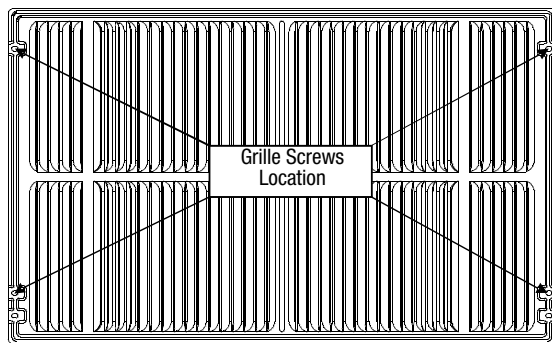

FIG. 2
4. If the unit has not been pre-drilled (some models), carefully drill 4-1/8" holes through the grille and into the side flange of the unit approximately 1 1/2" to 2" from the top and bottom as in Fig. 2 and Fig. 3. (Be careful not to drill into copper heat exchange coils).